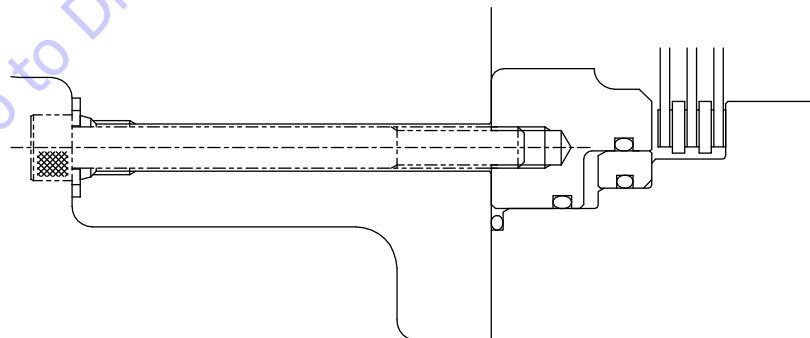

Figure 5-15. Procedures for Manually Releasing Parking Brake (step 3)
3. When socket head bolts for parking brake manual release are evenly screwed, and parking brake piston is pulled up, parking brake disk and friction plate become in a free state, and parking brake is released. (Refer to Figure 5-15.)